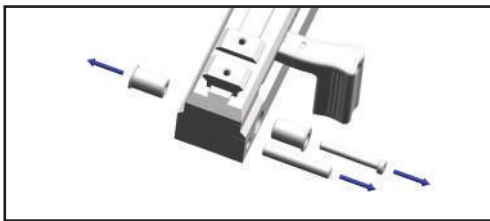

figure 11
5. Remove the disassembling screw at the back and disassemble the bush (figure 11).